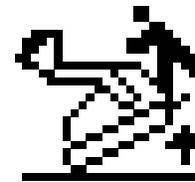

Figure 32
When you extend the loader arms to the maximum reach for the arm height and load weight, the InfoCenter will display the Smart Load icon (Figure 32) and flash the indicator light, an alarm will beep, and the arms will stop extending.
4. Use hand tools to rotate the hardware clockwise until the brake is released or you cannot rotate the screw (Figure 32).